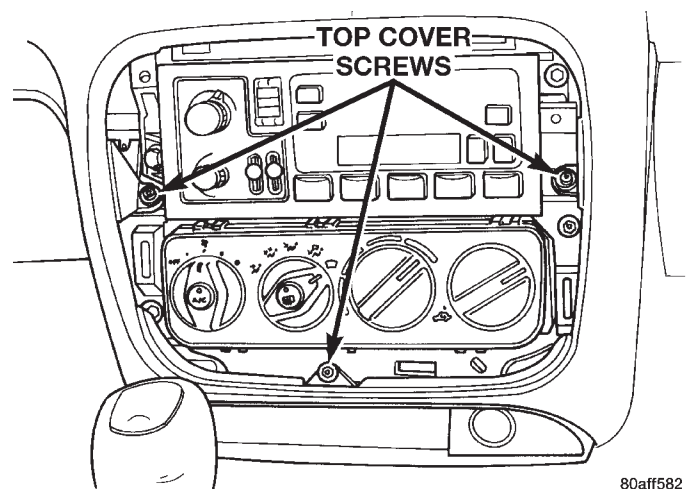

Fig. 21 Instrument Panel Top Cover-Center
- (8) Remove screws holding instrument panel top cover to center of instrument panel (Fig. 21).